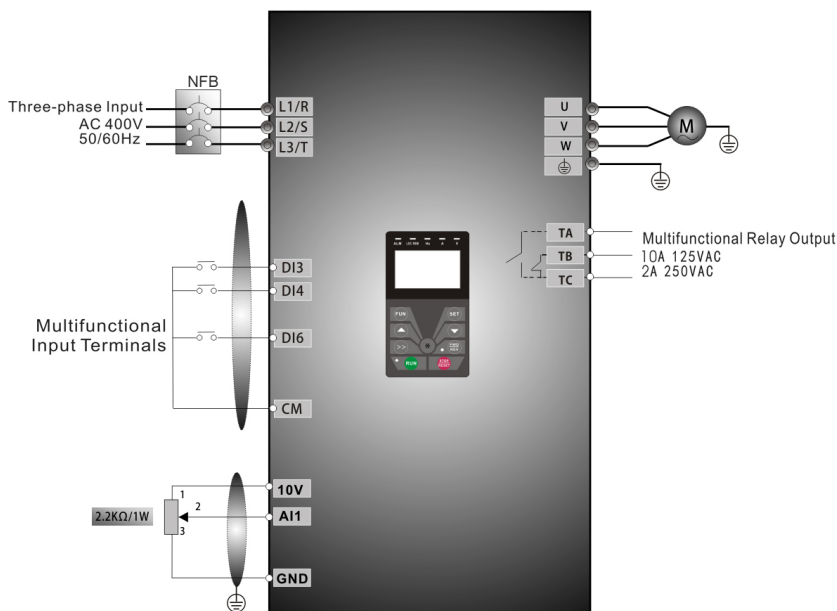

Fig 4-3 Wiring Diagram 3
- (1) Connect the wires in accordance with Figure 4-3. After having checked the wiring successfully, switch on the air switch, and power on the inverter. Note: 2K~5K potentiometer may be adopted for setting external analog signals. For the cases with higher requirements for precision, please adopt precise multitem potentiometer, and adopt shielded wire for the wire connection, with near end of the shielding layer grounded reliably.